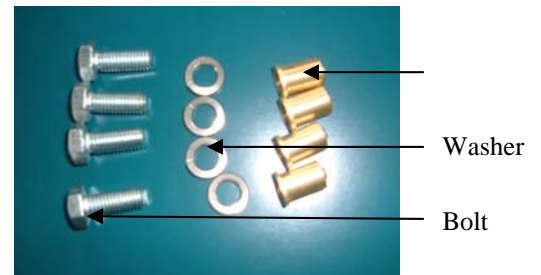

Figure 7-3. Threaded Spacer, Washer and Bolt
3. Place screws into threaded spacers (Figure 7-3) and then replace these on box (Figure 7-4). Tighten all 4 to close cover securely.
4. Place washers on bolts (Figure 7-3) and put through Bracket hole as shown in Figure 7-4.